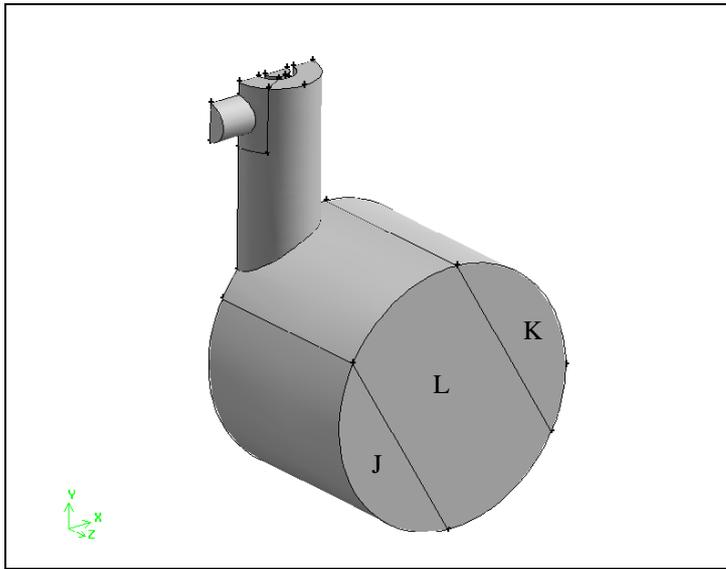

Figure 7-41: Volumes to be meshed
1. Mesh the volumes marked J and K in Figure 7-41.
- a) Select the volumes marked J and K in Figure 7-41 in the graphics window.
2. Mesh the volume marked L in Figure 7-41.
a) Select the volume marked L in Figure 7-41 in the graphics window.